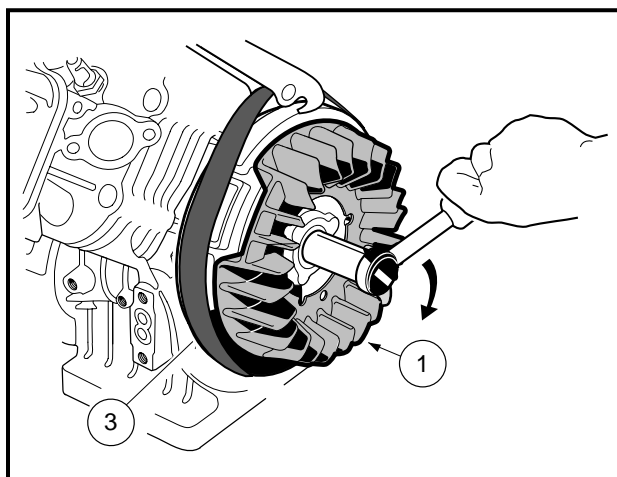

Figure 13-105 Fan and Flywheel Assembly
3. Use a strap wrench (3) to keep the flywheel and fan assembly (1) from turning while tightening the flywheel nut to 63 ft-lb (85.4 N·m) (**Figure 13-105, Page 13-47**). **See following CAUTION.**